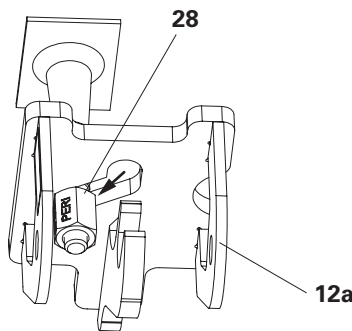

Fig. A5.11b
1. Insert B15 Anchor VGK (**28**) on the side of the slot through Suspension Head Flex VGK (**12a**) and screw on lightly. (Fig. A5.11b)